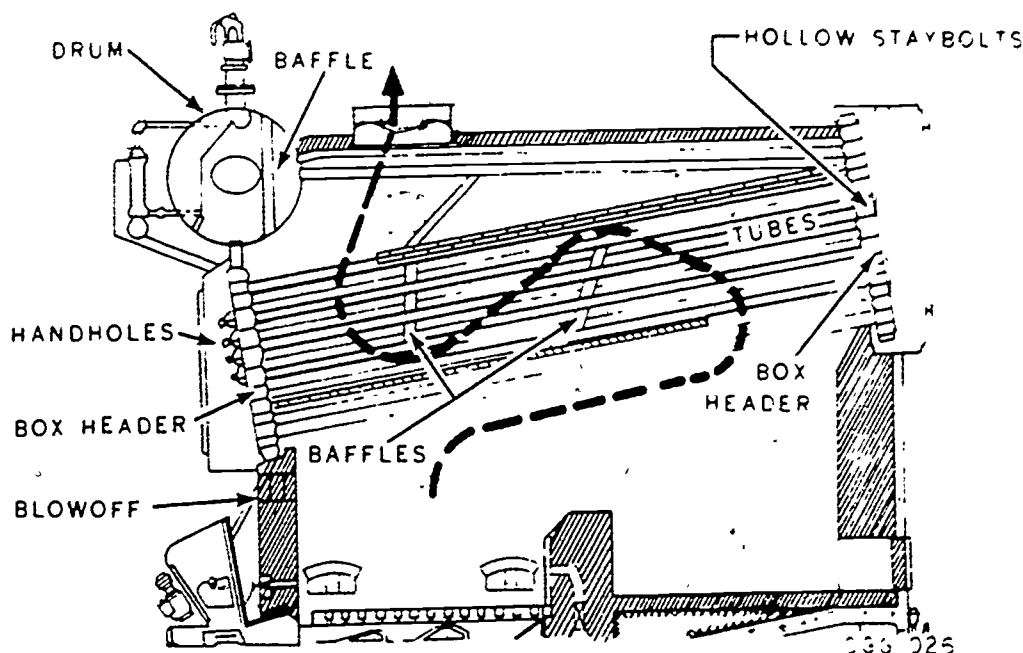

Figure 2-6. A box-header cross-drum boiler
b. Box-header cross-drum boiler. The box-header cross-drum boiler is the second type, and it is illustrated in figure 2-6. The box-headers are shallow boxes made of two metal plates: (1) a tube-sheet plate, which is bent to form the sides of the box, and (2) a plate containing the handholes, which is riveted to the tube-sheet plate. The tubes enter at right angles to the box-header and are expanded and flared in the same manner as in the sectional-header boiler. The boiler is usually built with the drum located in front. This boiler has either cross or longitudinal baffling that is arranged to divide the boiler into sections which force the flue gases to make three passes. Water enters the bottom of the drum, flows through connecting tubes to the box-header, moves through the tubes to the rear box-header, and goes back to the drum.